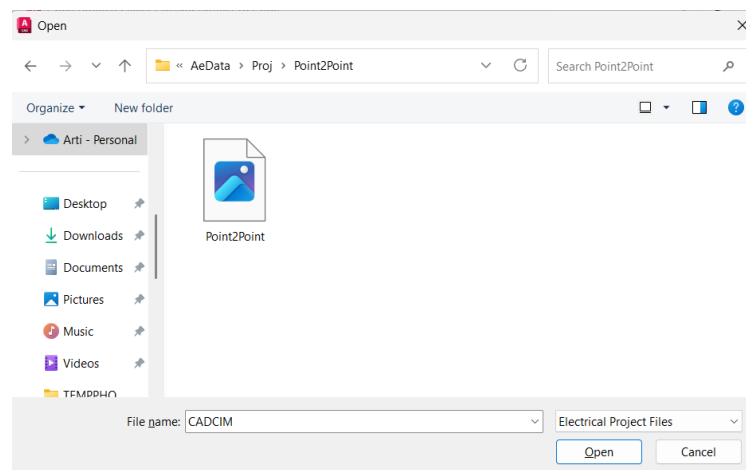

Figure 2-72 The Open dialog box
2. In this dialog box, choose the **Browse** button located next to the **Enter existing project path** edit box; the **Open** dialog box is displayed. In this dialog box, select the *c:\Users\User Name\Documents\Acade 2027\AeData\proj* folder and then double-click on the **Point2Point** folder. Next, select the **Point2Point.wdp** file, refer to Figure 2-72. Now, choose the **Open** button; path of the *Point2Point.wdp* file is displayed in the **Enter existing project path** edit box.